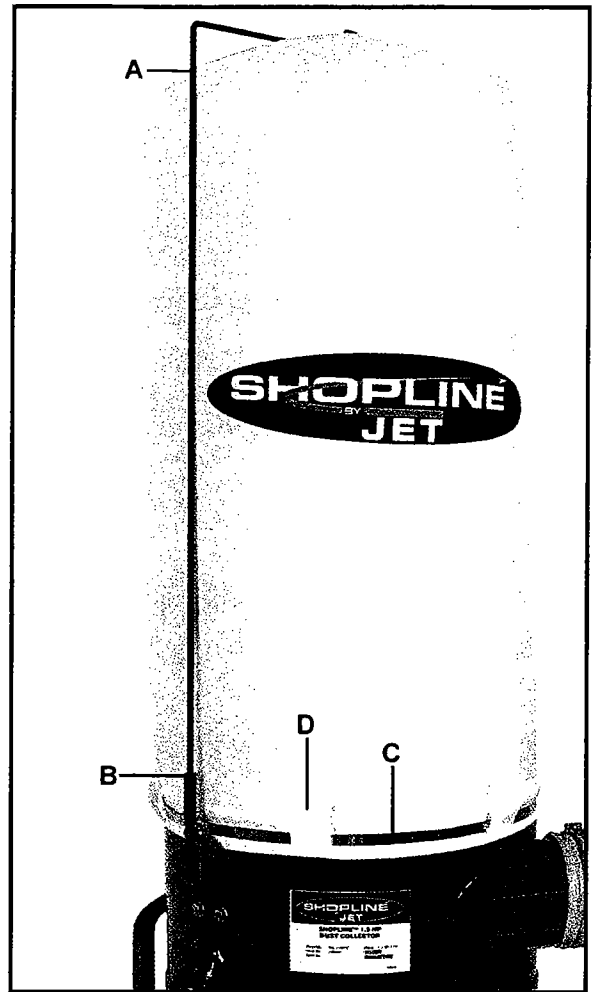

Fig. 7
- Slide the hook on the bag hanger (A, Fig. 7) through the top loop on the filter bag (SHOPLINE logo). Insert the hanger into the hanger bracket (B, Fig. 7). Thread the retainer strap (C, Fig. 7) through the loops on the filter bag (D, Fig. 7), and fasten to the collector housing. The retainer strap should be tight enough to provide a good seal.